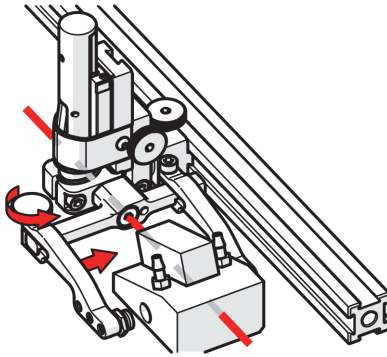

Figure 2-54 Adjust outer arm
2. Loosen the probe holder arm adjustment knob (see Figure 2-54 on page 94), and slide the probe holder arm along the yoke, pinching the wedge in place.